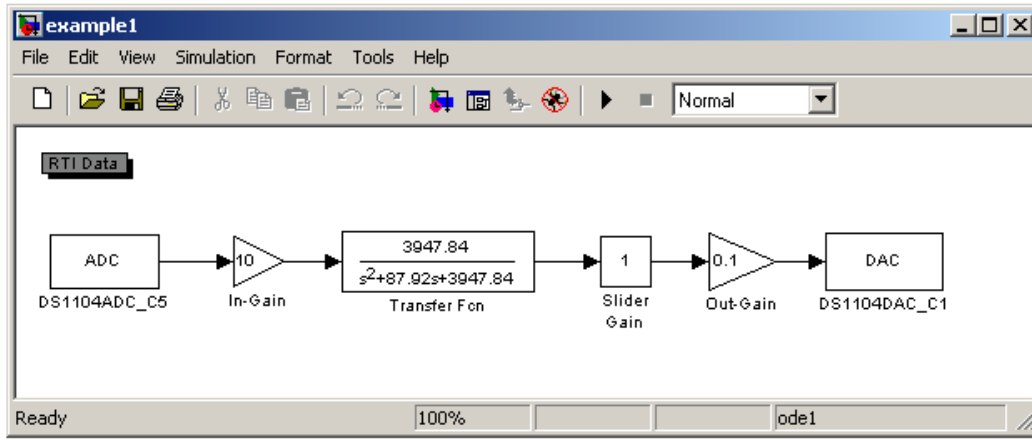

Figure 2.4: Real-Time model for dSPACE in Simulink
- Drag the **DS1104ADC_C5** and **DS1104DAC_C1** blocks into the Simulink model and replace the Signal generator and Scope blocks. Place the two gains of 10 and 0.1 on the input and output signals respectively. The model should become similar to the one depicted in Fig. 2.4. You might need to save the model with another name, to preserve the simulation model.